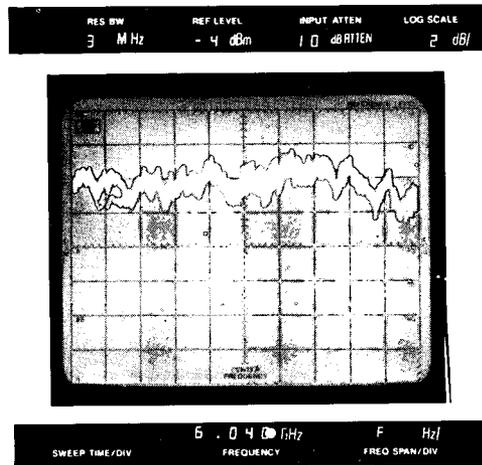

Figure 5-59. Frequency Response Adjustment CRT Display
- x. Obtain on-screen display using REF LEVEL CAL. Adjust A20R13 B3B for minimum slope of trace. Adjust A20R12 B3A CCW so that the right side of trace drops 2 dB. Readjust A20R13 B3B for minimum slope (see Figure 5-59). Using REF LEVEL CAL and REFERENCE LEVEL FINE, set the best line. Do not readjust REF LEVEL CAL or REFERENCE LEVEL FINE in steps z through as.